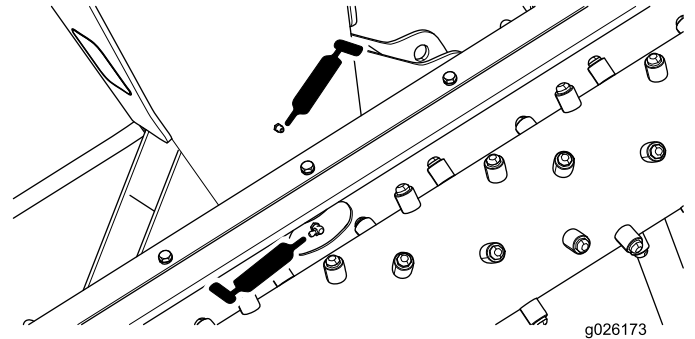
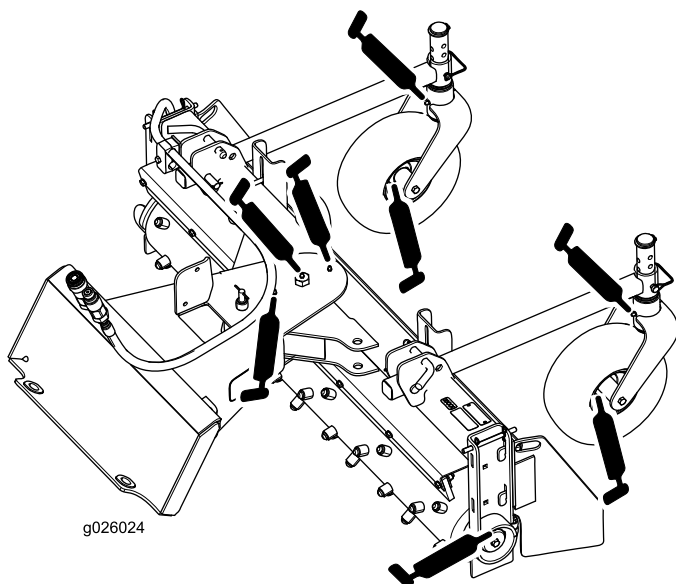

Figure 12
Figure 11
4. Apply the necessary amount of grease to the grease fittings (Figure 11 and Figure 12).